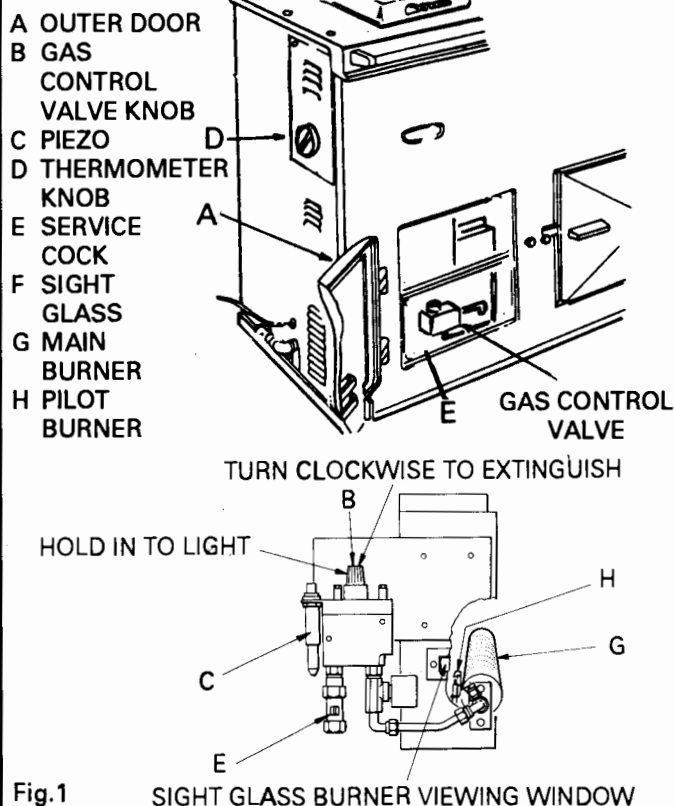

Fig.1
Lighting the Burner - See Fig. 1.
2. Ensure that the thermostat knob D is at the LOW position (Fig. 1).
This is visible through the sight glass F. (A few seconds must be allowed for the gas to reach the pilot burner). (See Fig 1).
To increase the temperature of the hotplate and ovens turn the thermostat knob D (See Fig 1) to the required setting.
NOTE: Hotplate cooking is quicker when the gas burner is on high fire. So increase the setting of the thermostat knob D (see fig 1) to increase the temperature of the hotplate. (The hotplate gains in heat quicker than the oven).
This oven is thermostatically controlled by the thermostat knob D (see fig 1). When the oven reaches the desired temperature this is maintained by the thermostat.
Some examples of items that are suitable for the lower oven temperatures are given below, for these times the thermostat knob D (see Fig 1) is above setting 6:-
The programmer can be set to give the desired cooking temperature when you want it, without having to wait for the warming up period. For example, if you wish to cook breakfast at 7.30 am, the programme can be set to give the required heat up time prior to this. Thus, if it takes 60 minutes to come to the temperature you require, the programmer will be set to operate at 6.30 am and the thermostat knob D (see Fig 1) set to the position you require the night before. The cooker will continue to operate at LOW until the programme switches on at 6.30 am, when the cooker will commence to warm up. The 'Time Off' will need to be set to allow sufficient time for your cooking period.